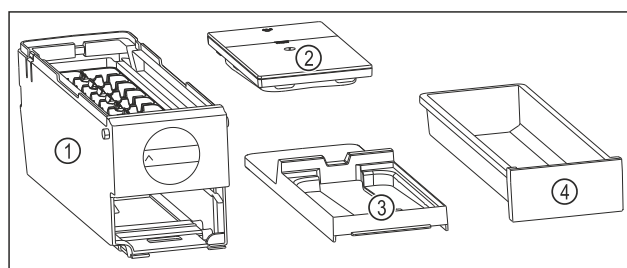

Fig. 185 Components of the EasyTwist-Ice
- ▷ EasyTwist-Ice is disassembled in four parts. (see Fig. 185)
- ▶ Only disassemble the EasyTwist-Ice into the illustrated components. (see Fig. 185)
- ▶ Clean the EasyTwist-Ice body Fig. 185 (1) as a complete unit.